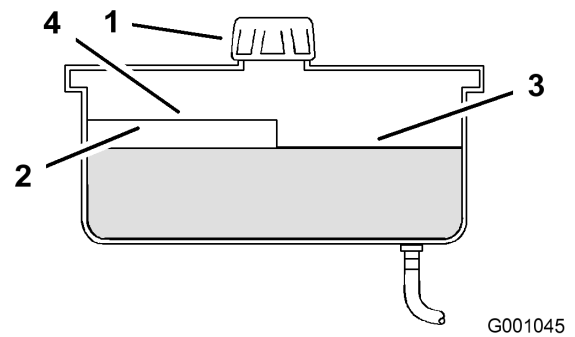

Figure 55
2. Clean the area around filler neck of hydraulic tank (Figure 55).
3. Remove the cap from the filler neck. Look inside to check if there is fluid in the reservoir (Figure 55).
Note: The fluid level should be to the top of the hot level of the baffle, when the fluid is hot (Figure 55).